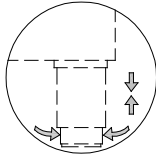

Figure 1
- Place the refrigerator on a level surface (use the adjustable feet) (Fig. 1)